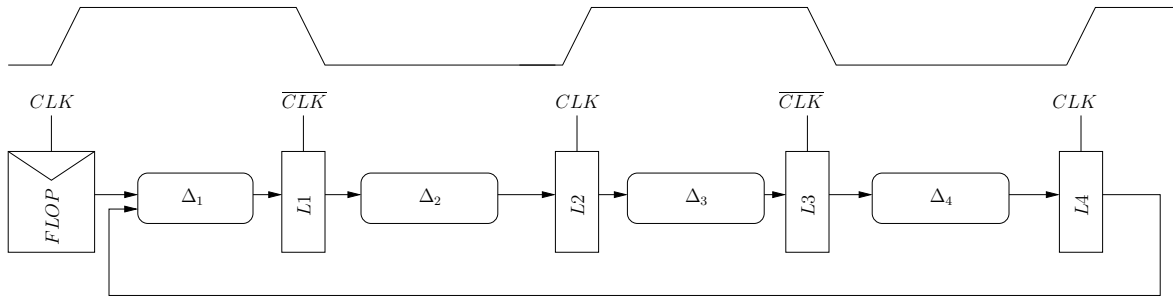

Figure 4: Sequential path-1
10. For the path show in Fig. 4 determine which latches borrow time and if any setup time violations occur. Assume there is no clock skew and that latch delays are accounted for in the propagation delays  $\Delta$ 's. Repeat for cycle times of 1200, 1000 and 800 ps.